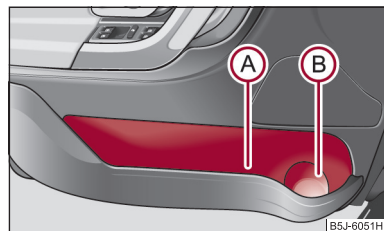

Fig. 86 Storage compartment in door panel
Use the area (A) ⇒ fig. 86 of the storage compartment only for storing objects which do not project so that the effectiveness of the side airbag is not impaired. ■